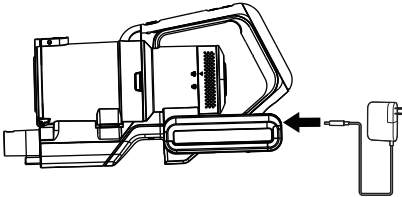

Fig. 3
2. Insert the adaptor cord into the DC jack at the end of the cleaner handle and plug the adaptor into the mains supply socket (fig.3).